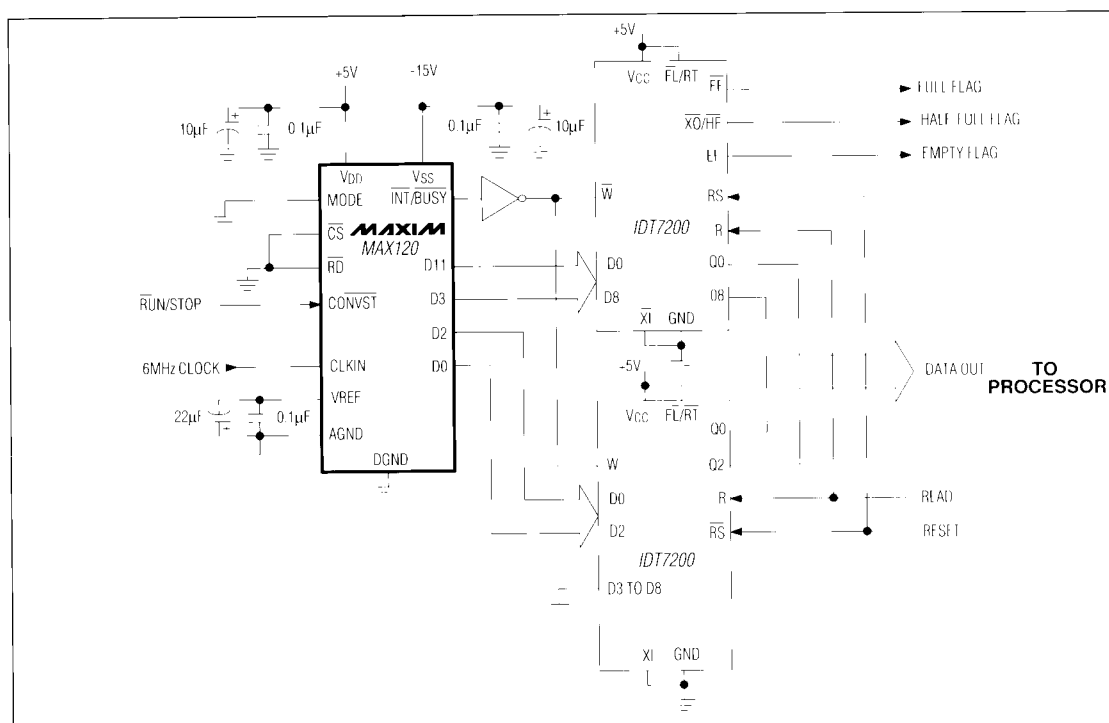

Figure 13. Using MAX120 with FIFO Memory
Using FIFO memory to buffer blocks of data from the MAX120 reduces μ P interrupt overhead time by enabling the μ P to process data while the MAX120, unassisted, writes conversion results to the FIFO. To retrieve a block of data, the μ P reads from the FIFO via a read-interrupt cycle. Read and write operations for the FIFO are completely asynchronous. Figure 13 shows the MAX120 operating in continuous-conversion mode (mode 5), writing data directly into the two IDT7200 256 x 9 FIFO buffers at the rate of 428ksps. The μ P is interrupted to read the accumulated data by the FIFO's half-full (HF) flag approximately three times per millisecond. For operation at 500ksps, use an 8MHz clock, and pulse CONVST at 500kHz. The full flag (FF) indicates that the FIFO is full. If this flag is ignored, data may be lost. If necessary, conversions can be inhibited by pulling \overline{CS} , \overline{RD} , or CONVST high. The FIFO's read cycle times are as fast as 15ns, satisfying most system speed requirements. The RESET input resets all data in the FIFO to zero.